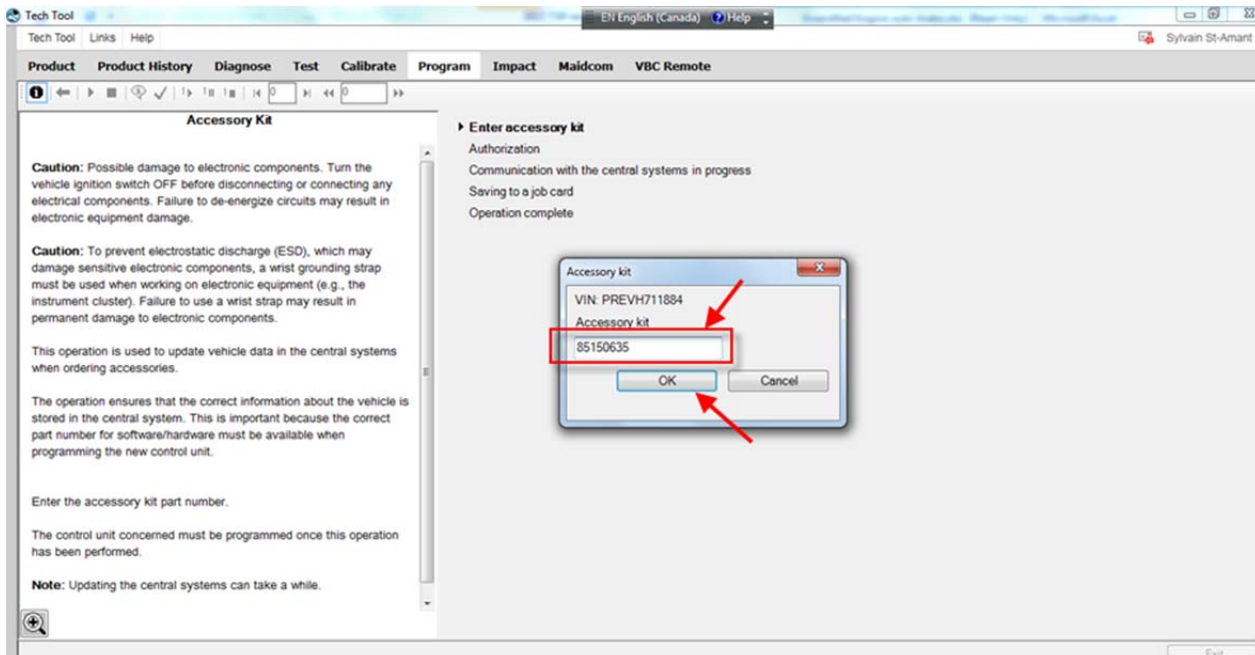

FIGURE 17
5. Enter the accessory kit number 85150635 (FIGURE 17) and then click OK.